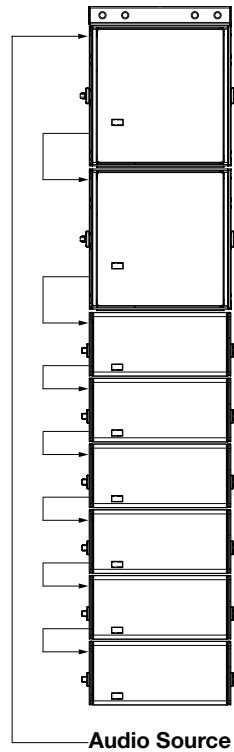

Figure 3: Flown Mixed Array
- Flown mixed arrays of LEOPARDs and 900-LFCs (Figure 3)